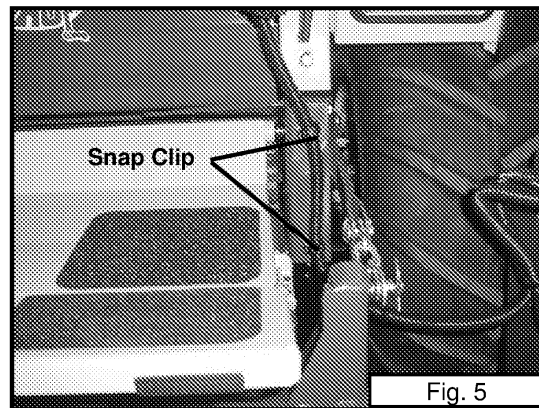

Fig. 5
- Using a snap clip (item 3, page 6), secure the wiring harness to the tractor frame. As shown in Fig. 5, snap clips can be